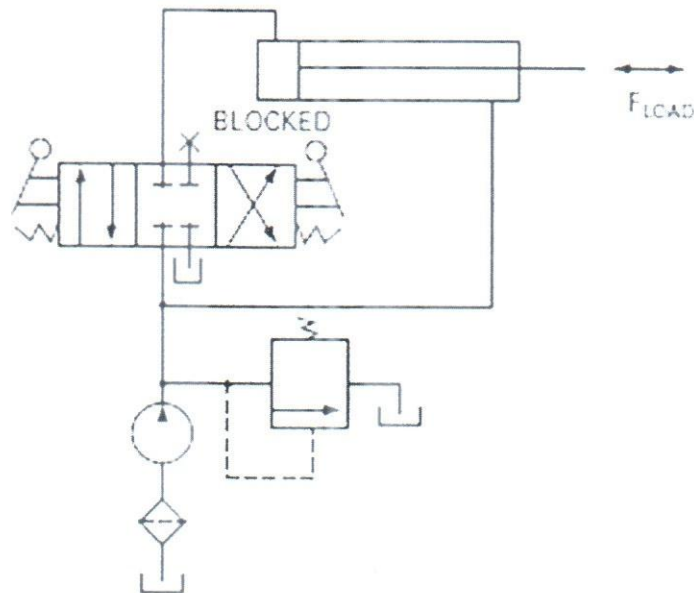

Fig: 1
- c. 1. Explain the working principle of the regenerative hydraulic circuit of **Fig 1**.
2. A double-acting cylinder is hooked up in the regenerative circuit of **Fig 1**.